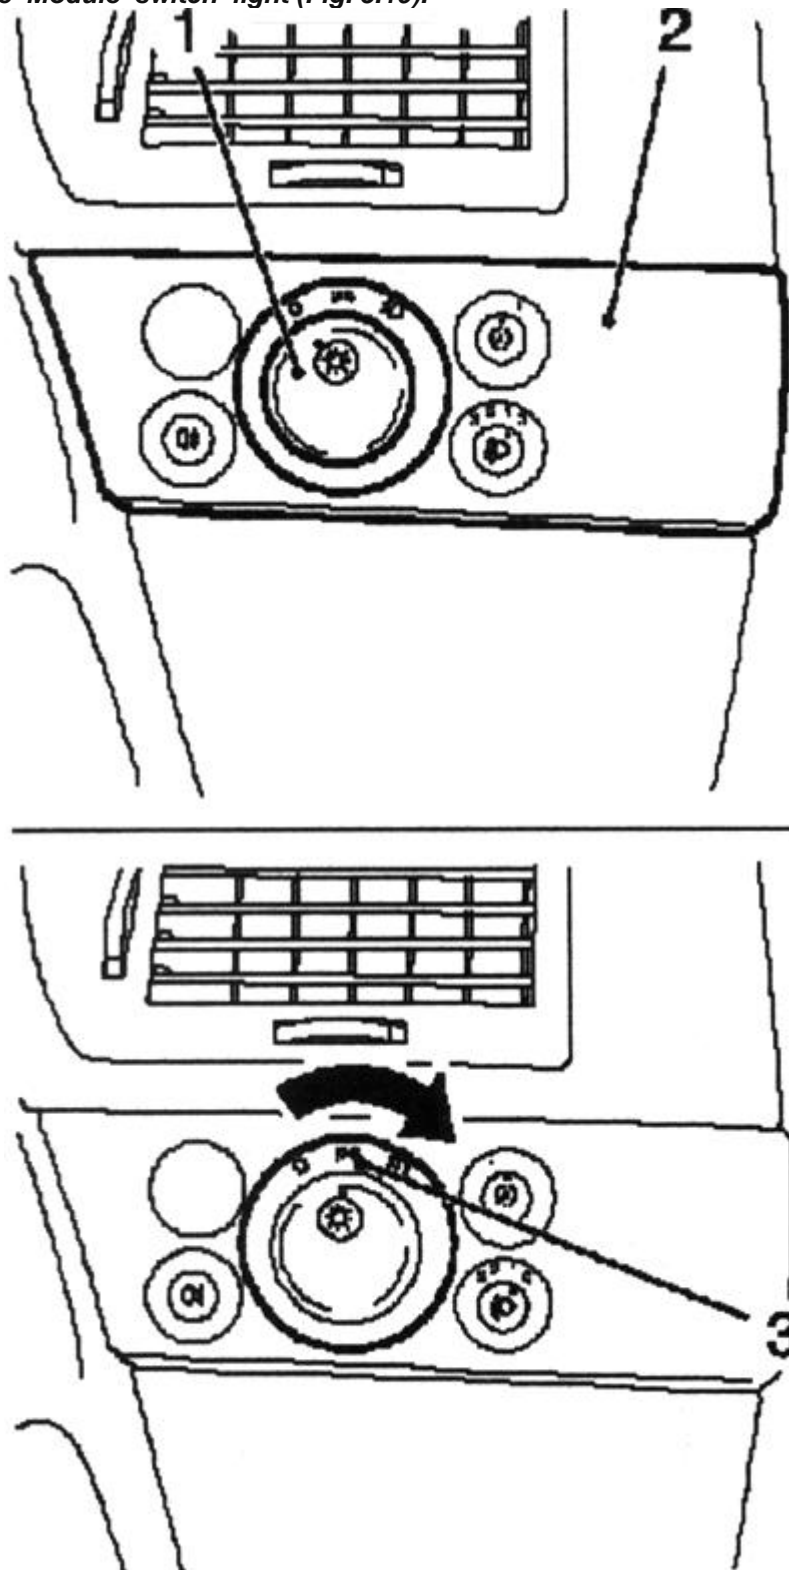

Fig. 5.19. Withdrawal Module light switch:
For withdrawal Module light switch, to down knob (1) positive zhenii "On", move pen in central position and INS-Mite Module switch light (Fig. 5.19).